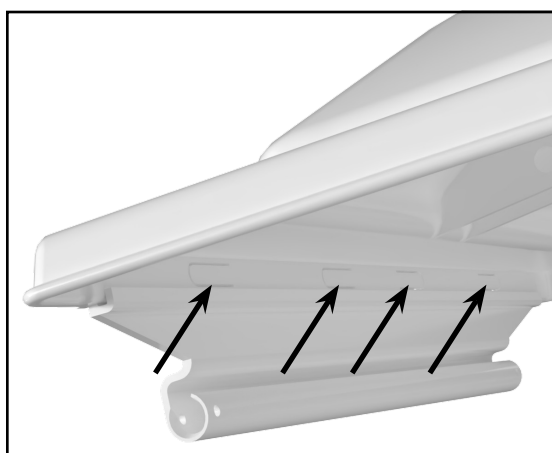

Figure 3
3. Check along the inside surface of the lid to make sure that all spring buttons have returned to their original positions firmly locking the hinge to the lid. (**Figure 3**). The inside surface of the spring buttons should be flush with the inside surface of the lid.